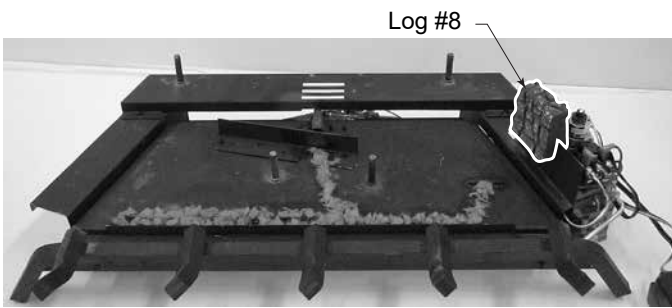

Figure 6.3 - Log #8 Placement
1. Place log #8 on right bracket next to valve by sliding grooves on sides of log into cutout on brackets. Figure 6.3.